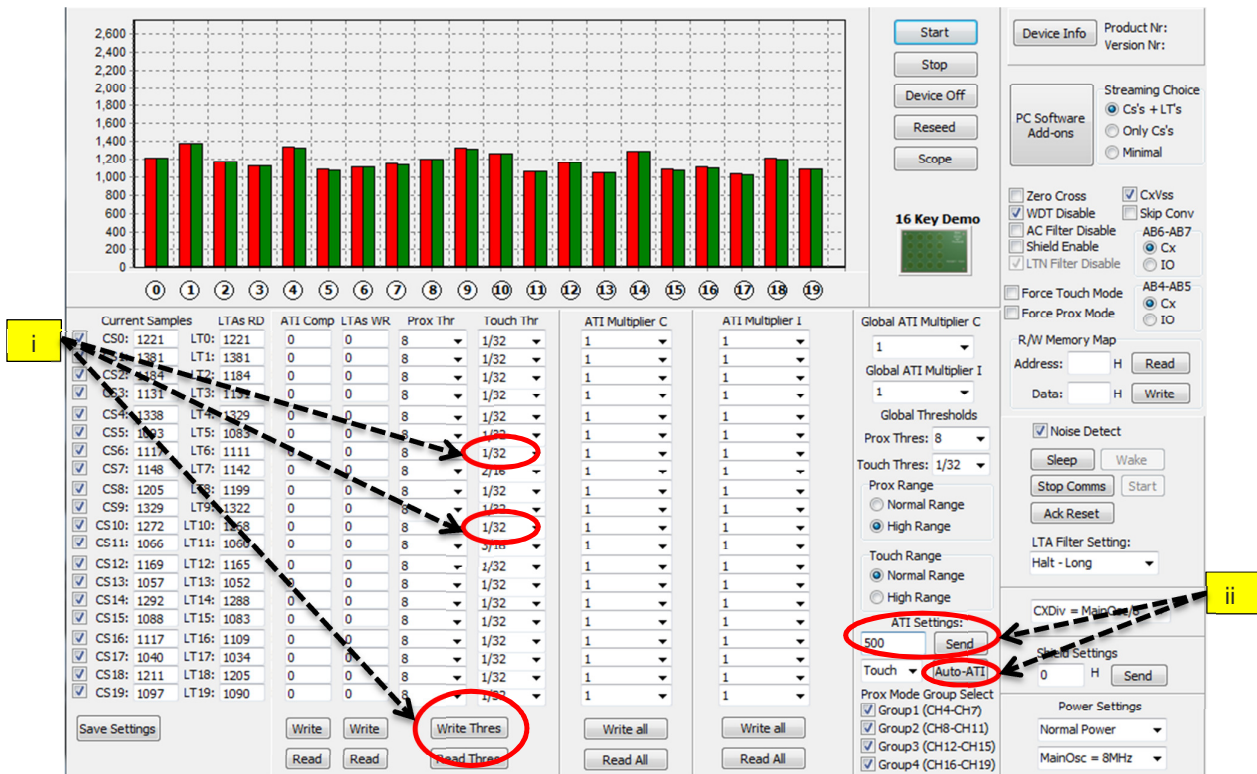
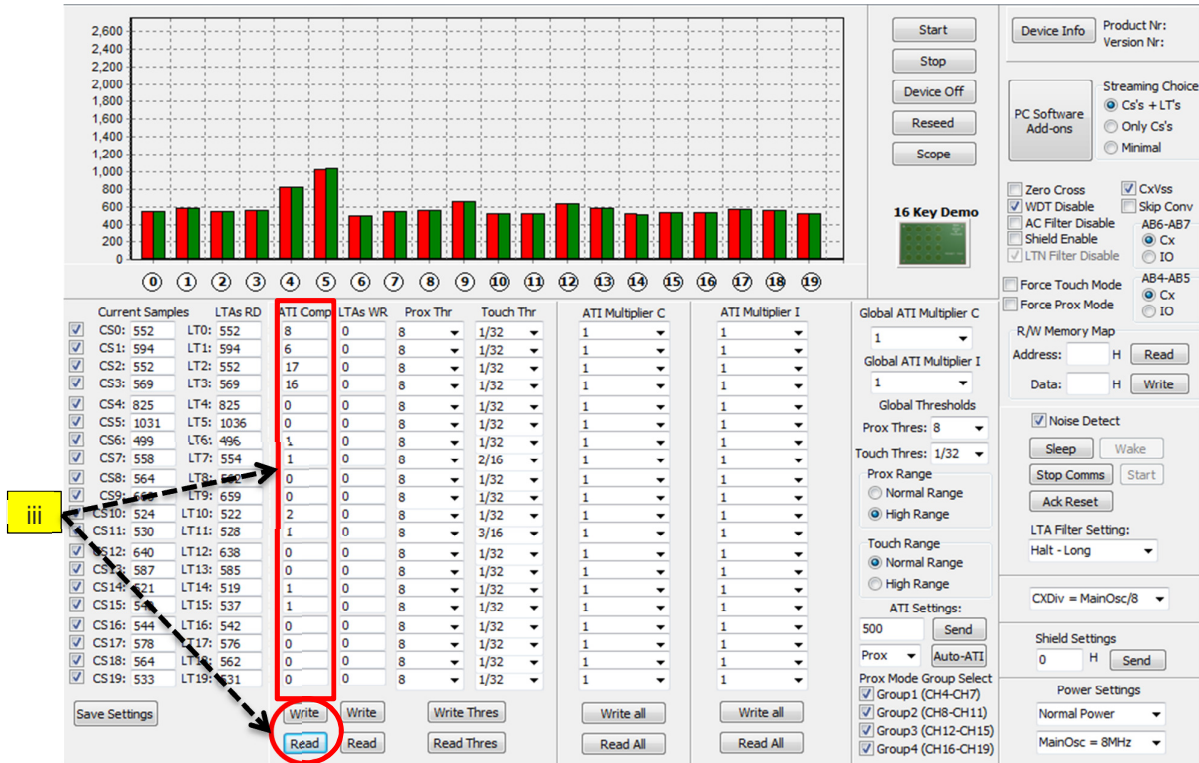

Figure 3.4 Adjusting individual channel thresholds
Figure 3.5 Adjusting channel sensitivity ATI compensation
### 3.2.1 Example (See Figure 3.4 and Figure 3.5):
- (i) To change the touch threshold on individual channels, click on “Read Thres”. This will display the current settings. Change the threshold setting of the channel in question by selecting the desired value from the drop down box, and click on “Write Thres” as indicated in Figure 3.4.
- (iii) To make one or more channels more sensitive, the ATI compensation parameter can be adjusted as follows (See Figure 3.5). Under “ATI Comp” click on “Read” to display the current compensation values. Enter a new value between 0 and 63 for the channel that is to be adjusted, and click on “Write”. A higher compensation value will yield higher current samples, and thus will make the channel more sensitive.